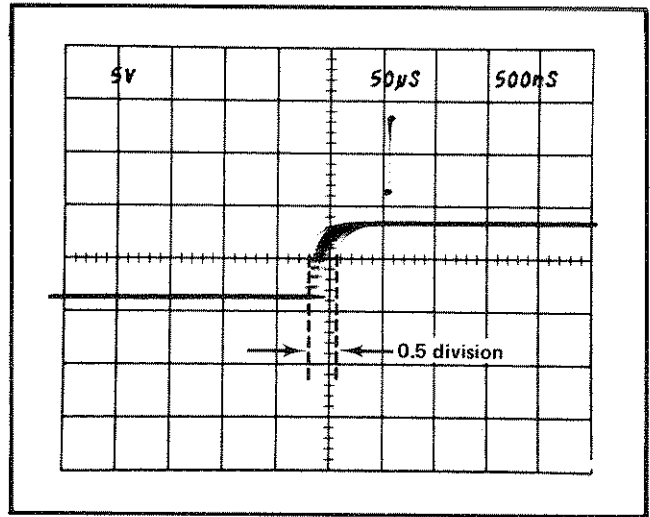

Fig. 2-15. Measuring pulse jitter.
**Example.** Assume that the horizontal movement is 0.5 divisions (see Fig. 2-15), and the B TIME/DIV switch setting is .5 µs.